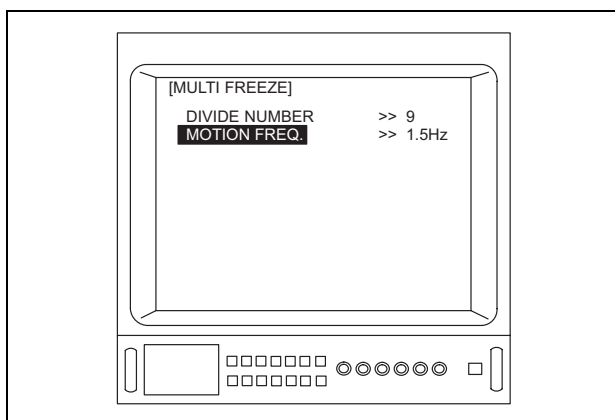

Figure 5.131
7. Depress the menu switch “◀” or the “Enter” key on the keyboard to adjust the “MOTION FREQ.” (see Figure 5.131).